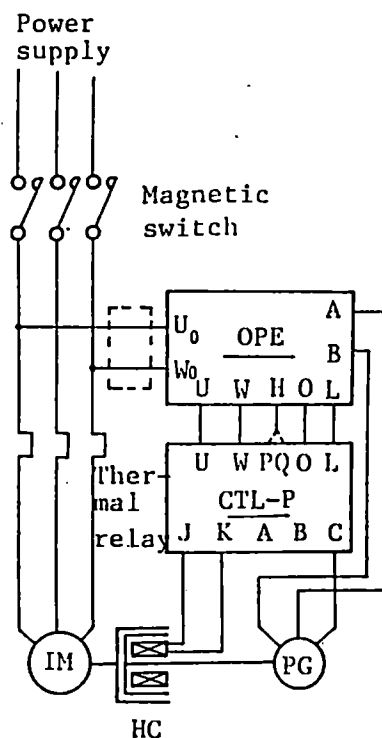

Fig. 6-2 Connection Diagram for Adjusting Revolution Counter
<p>If no standard speed indicator is available, make adjustment in the following manner in unloaded state disconnected from the load. Of wiring between controller and HC motor, disconnect wires from terminals A and B of the controller and connect them to terminals A and B of the operator as shown in Fig. 6-2. Start the drive motor. Turn changeover switch 43C on the operator to "ON" position and then fully turn the speed setting variable resistor clockwise. Turn the variable resistor in the operator mentioned earlier in this state and set the indication at 1,500 rpm if the power is of 50Hz or 1,800 rpm if the power is of 60Hz. Lock the variable resistor on completion of adjustment, and change wiring connection back to what is shown in the total connection diagram (Fig. 5-1).</p> <p>(2) Zero Adjustment</p> <p>Make zero adjustment by turning variable resistor VR₁ for minimum speed adjustment mounted in the controller in the state where the HC motor is coupled with the load and the load is reduced to the minimum. Set variable resistor VR₀ for speed setting in a position that is slightly (about 1/2 graduation of ten equally divided graduations) before the position reached by fully turning it counter-clockwise and turn VR₁ in the controller clockwise using a standard (-) tip screwdriver. Stop and lock VR₁ at the point at which the HC motor begins to rotate.</p> <p>(3) Maximum Speed Adjustment</p> <p>Make maximum speed adjustment by variable resistor VR₂ for maximum speed adjustment. VR₂ is set at about 1,200 rpm at 50Hz at shop prior to shipment. If the power supply frequency is 60Hz or if the HC motor is 5.5kW and up even when the power supply frequency is 50Hz, the maximum speed varies. Turn VR₂ so that the revolution of the HC motor reaches the maximum speed when variable resistor VR₀ for speed setting in the operator is fully turned clockwise in the state where the specified load is applied to the HC motor. The speed of the HC motor increases when VR₂ is turned clockwise.</p> <p>(4) Gain Adjustment</p> <p>The gain can be adjusted by variable resistor VR₃ mounted in the controller. Adjustment can be made by around 2 ~ 10% for reducing the speed regulation. Setting is made at about 5% at shop. If hunting occurs in this state, slightly reduce the gain. Gain adjustment is shown in Fig. 6-3.</p>